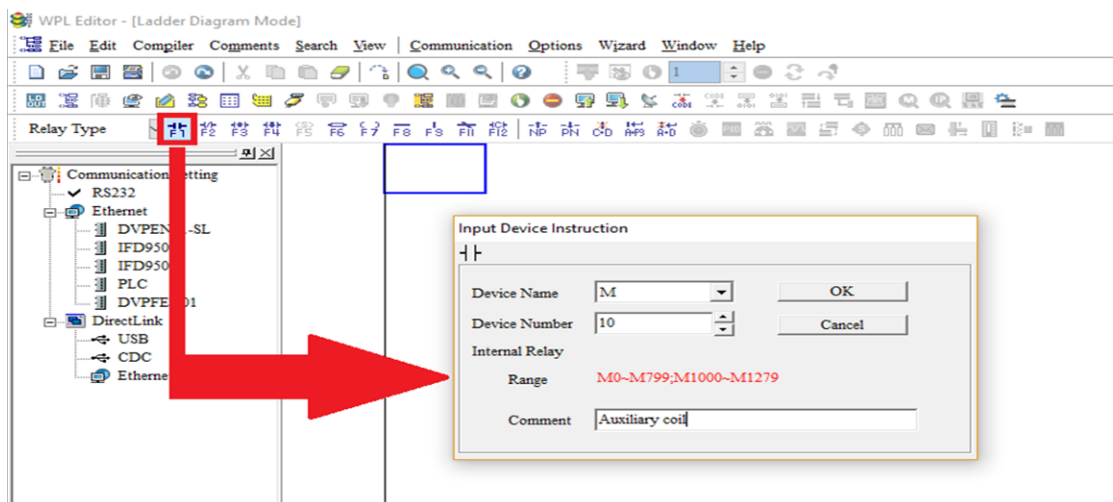

Figure 16-12
Step 2: Click on the always-open switch icon  or press the function key F1. After the name of the input device and the comment dialog box have appeared, the device name (such as "M"), device number (such as "10"), and input comments (such as "auxiliary contact") can be selected; press the OK button when finished (see figure 16-12 and 16-13 below).